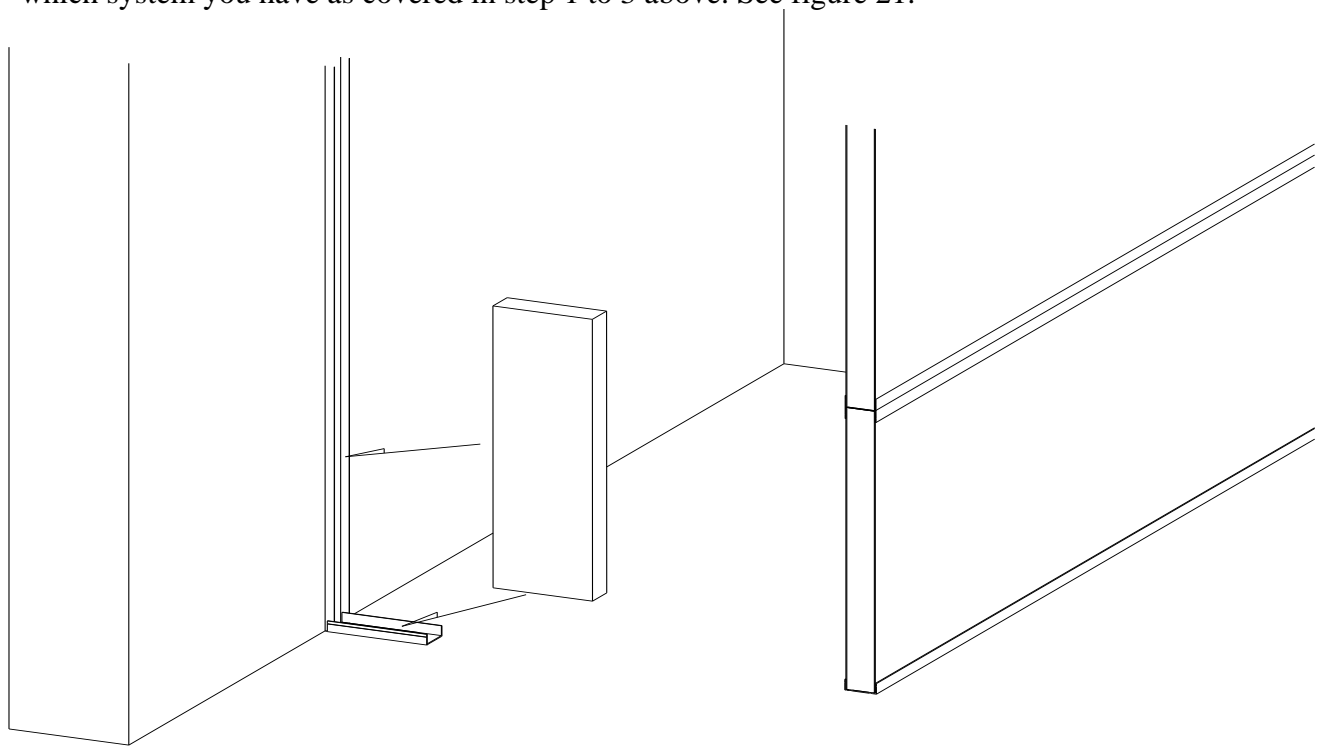

Figure 21
5. Insert the first filler panel in to the “B” and “A” channels or “G” and “A” channels depending on which system you have as covered in step 1 to 3 above. See figure 21.